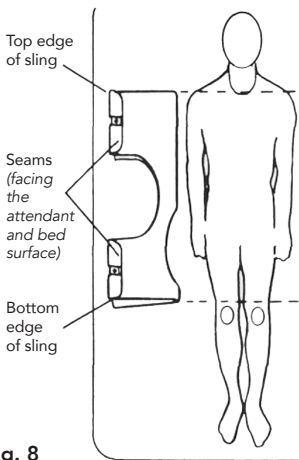

Fig. 8
2. Fold the sling in half (length-wise) and place the fold beside the patient. See Fig. 8.